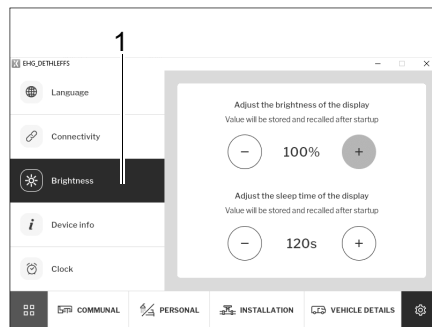

Fig. 282 Brightness
- Click on the *Brightness* (Fig. 282,1) button.